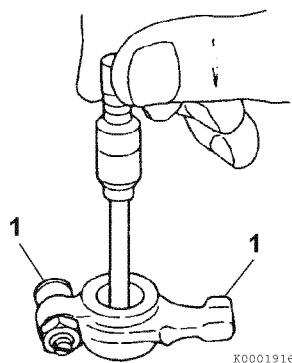

Figure 6-52
1. Use a telescoping gauge and micrometer to determine if the inside diameter of all the rocker arm support brackets and the rocker arms (**Figure 6-52**) are within the specified limits. See *Rocker Arm and Shaft* on page 6-7 for the service limit.
2. Inspect the contact areas (1, **Figure 6-52**) for excessive wear or damage.